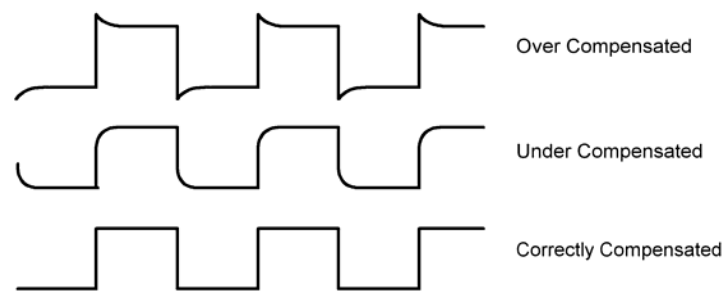

Figure 5-2 Typical Compensation Waveform
7. Observe the displayed waveform and compare them with the waveforms shown in figure 5-2. If either probe needs to be adjusted, proceed the step 8. If